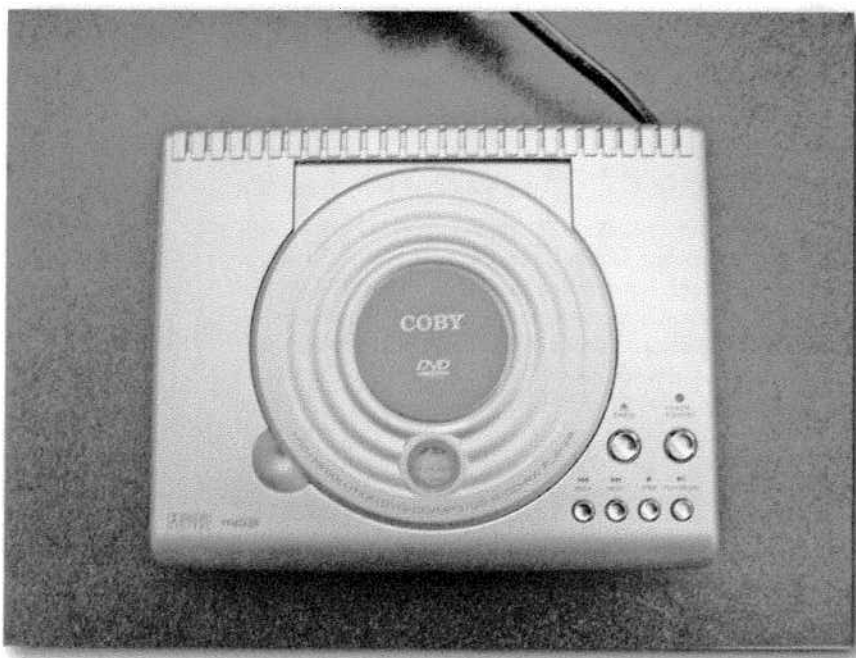

FIGURE 9-1: Slimline DVD player.
- Slimline DVD Player (approximately \$40), as shown in Figure 9-1